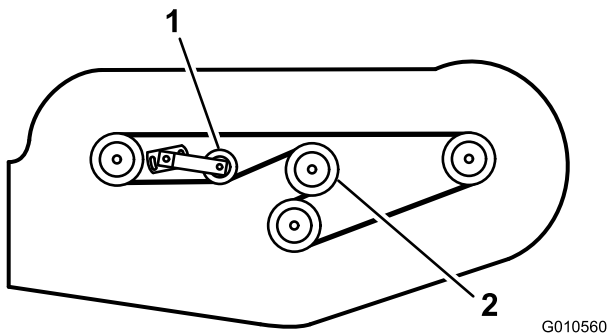

Figure 29
5. Install the new belt around the gear box pulley, spindle pulleys, stationary idler pulley, and adjustable idler pulley (Figure 29).